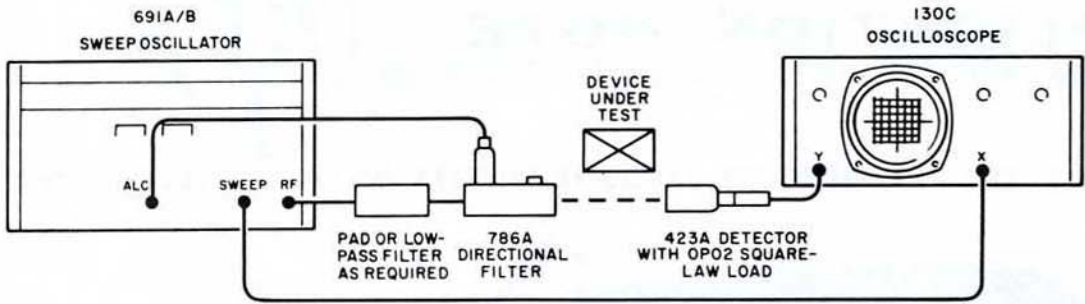
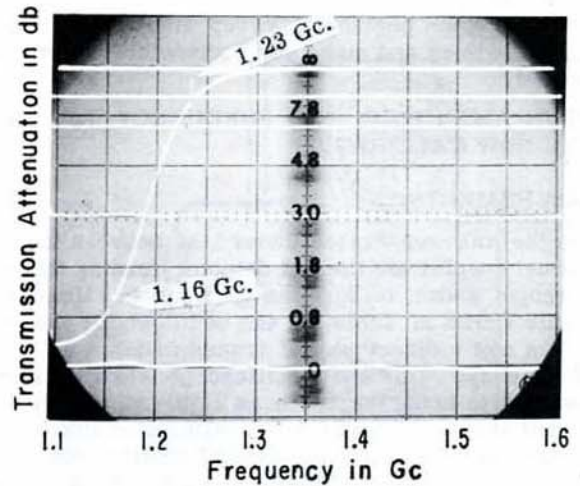

Figure 2. Setup for Low-Loss Transmission Measurements in Coax
Figure 5. Shows 0, 3, 7, and 10 db Calibration Lines and the Insertion-Attenuation of a 1200-Mc Low-Pass Filter
Typical setups for making coaxial and waveguide transmission measurements are shown in Figures 2, 3, and 4. The forward-wave detected signal is applied to the sweep oscillator for leveling purposes.
For coaxial testing use the  $\Phi$  780 series Directional Detectors\* (shown in Figure 2) to complete the leveling-feedback-loop from RF to the sweep oscillator leveling amplifier. Frequency response of these devices for 1 to 2 and 2 to 4 Gc ranges is  $\pm 0.2$  db.
For the oscilloscope detectors shown in Figures 2, 3, or 4, always use the load resistor purchased under 423A or 424A Option 02, because detector and load have been optimized for square-law voltage response (linear power). The 423A or 424A used with its individually factory-mated load has a square-law response within  $\pm 1/2$  db below 50 mv DC output as measured on the oscilloscope. When square-law loading is required for the detector, use only the factory-supplied load furnished with each Option 02 detector. Identification is easy because load and detector bear identical serial numbers. The detector used for leveling need not be square-law loaded because under closed loop conditions, level always remains the same.
With the instruments set up as shown in Figures 2, 3, or 4, connect coax or waveguide together, in place of device under test. Oscilloscope horizontal and vertical amplifiers should be set to respond to DC, and the vertical attenuator should be set to a convenient multiple or fraction of ten. Of course, the maximum power applied to the flat detector should be within the square-law range. Filters, pads, and adapters within the RF leveling loop will not affect the frequency response of the leveled RF output.
- Cut transparent "db" scale from foil. Place scale on oscilloscope graticule as shown in Figure 5. Use either static charge or several small spots of rubber cement to hold scale in place.
Place the unknown device under test between the directional coupler and the flat detector (feeding the oscilloscope) shown in Figures 2, 3, or 4. Using the db scale shown in Table III, the oscilloscope presentation is now a direct plot of transmission loss in db vs frequency. Use the oscilloscope vertical step-attenuator to bring the trace as close as possible to (but still above) the lower 3-cm calibration line, without changing the vernier or vertical position controls. Note the ratio of steps traversed on the attenuator, and from Table I add the related number of db to the calibrated oscilloscope scale reading.
Attenuator settings, of course, can be extended beyond those shown in Table I using the same system of correction. If more vertical amplifier gain is needed, use the 140A Oscilloscope with 1400A and 1420A Plug-In Units. The photo shown in Figure 5 is an oscilloscope picture of a 1200-Mc coaxial low-pass filter response complete with vertical attenuator calibration lines. The setup of Figure 2 was used for this picture; arrows show sweep oscillator marker pips for exact calibration. A high degree of accuracy can be attained on both frequency and amplitude axes. Note the trace-splitting precision with which amplitude and frequency calibration lines fall on the graticule in the example given.
It is reasonable to expect similar performance in day-to-day service with truly square-law/frequency-flat detectors, with the sweep oscillator well leveled, with a modern internal-graticule oscilloscope, and with stable circuitry throughout the system. The  $\text{hp}$  instruments shown in Table IV, when connected as shown in Figures 2, 3, or 4, incorporate all these features.